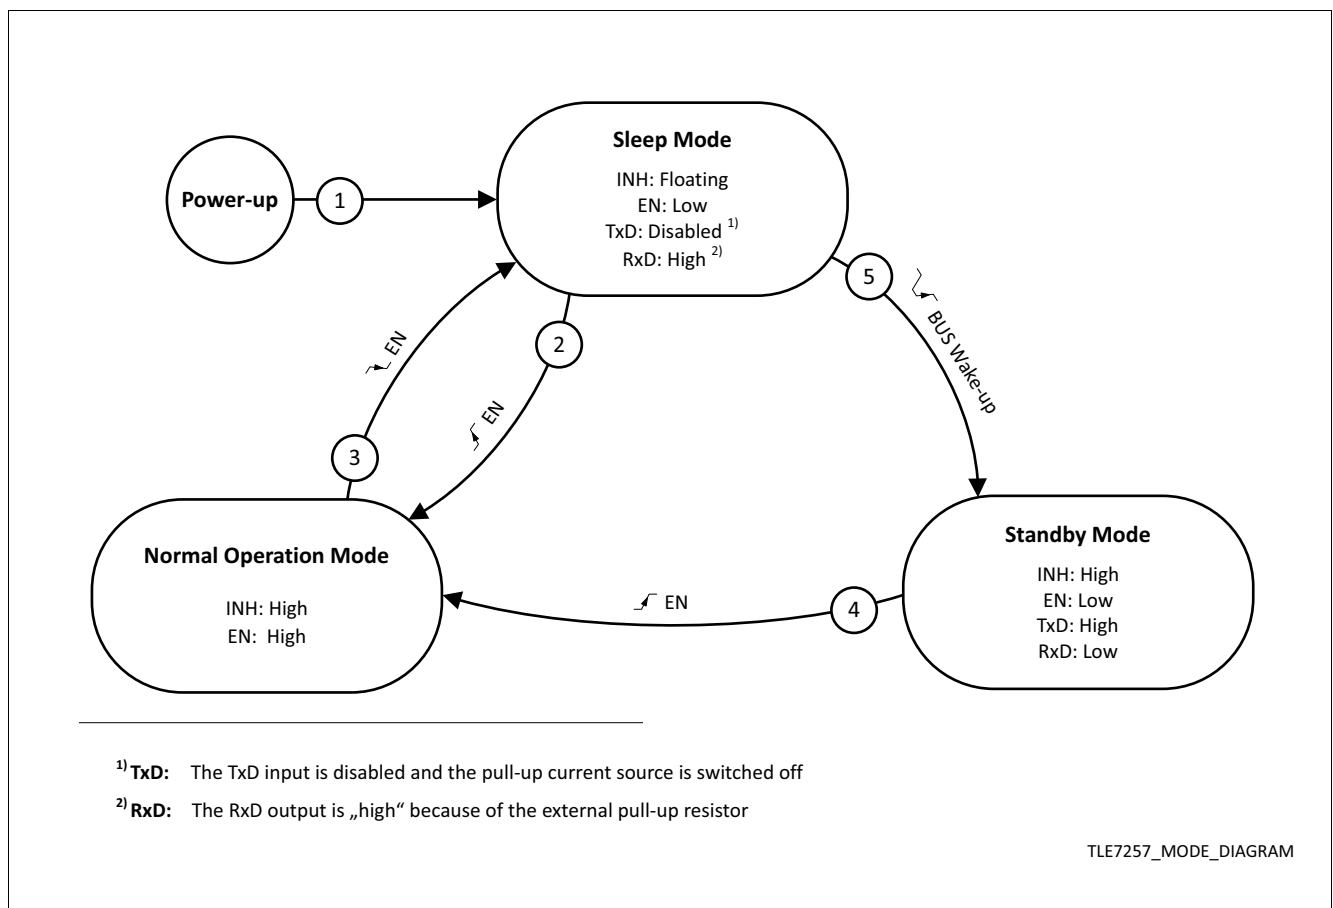
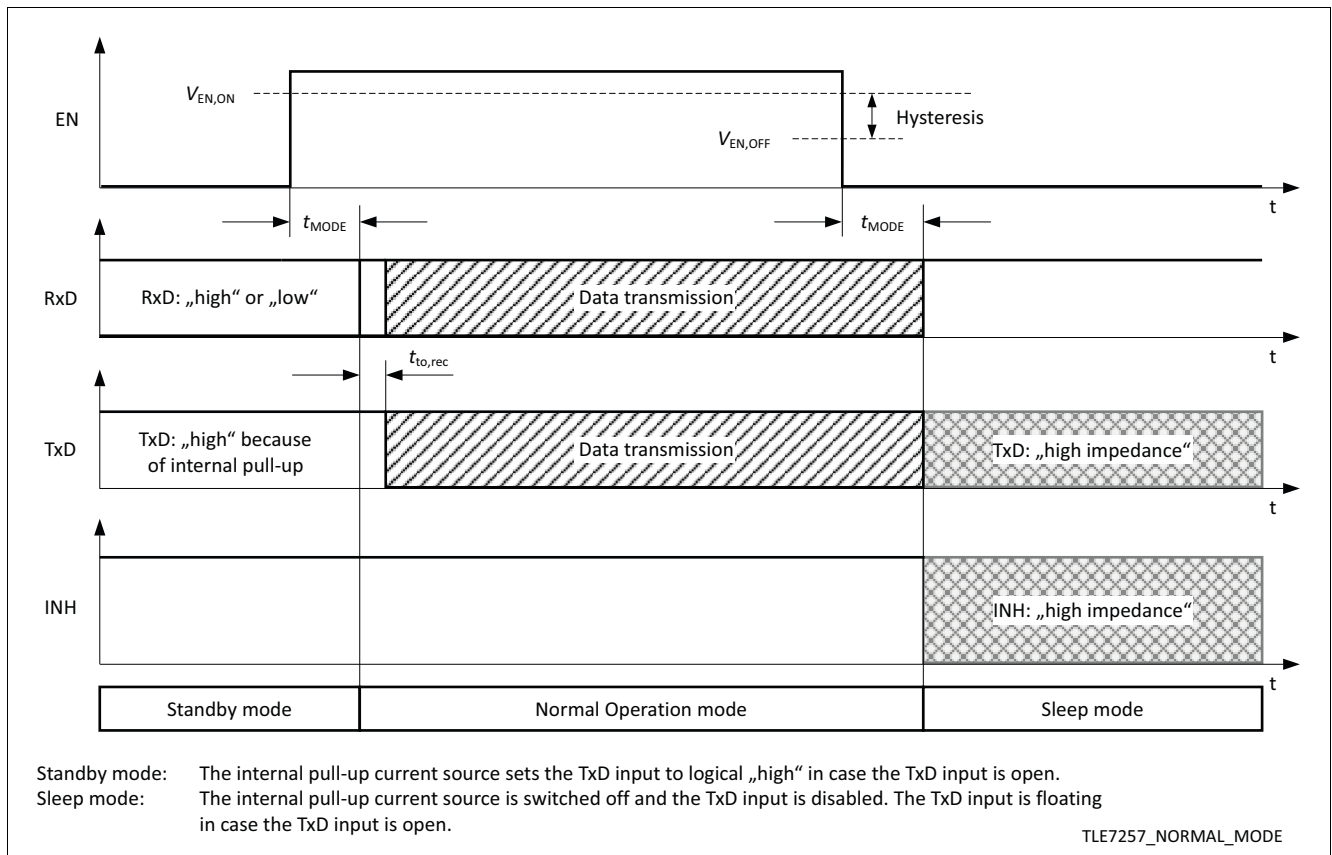
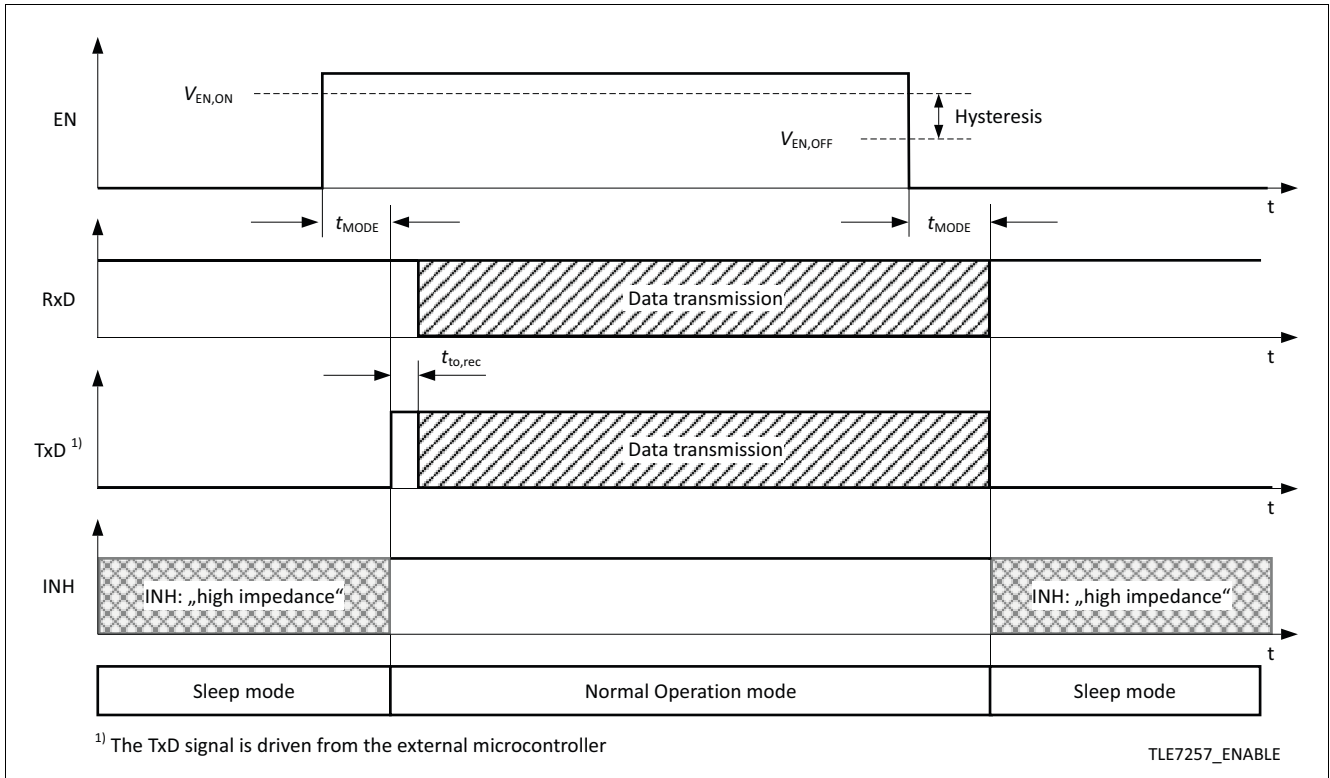

Figure 4 Operation mode state diagram
Figure 5 Entering Normal Operation mode from Standby mode
Figure 9 Entering Normal Operation mode from Sleep mode
The TLE7257 has 3 major operation modes (see **Figure 4**):
Normal Operation mode can be entered from either Sleep mode (see Figure 9) or from Standby mode (see Figure 5), by setting the EN input to logical "high". From Normal Operation mode the TLE7257 can only enter Sleep mode, it is not possible to enter Standby mode directly (see Figure 4).
After a mode change to Normal Operation the TLE7257 requires a logical “high” signal for the time $t_{to,rec}$ on the TxD input before releasing the data communication (see Figure 5). The transmitter remains deactivated as long as the signal on the TxD input remains logical “low”, preventing possible bus communication disturbance.
- The RxD output indicates a wake-up event (see Figure 4 and Table 1).
- The EN input is active. A “high” signal on the EN input triggers a transition to Normal Operation mode (see Figure 5).
To switch the TLE7257 from Normal Operation mode to Sleep mode, the EN input has to be set to “low”. Conversely a logical “high” signal on the EN input sets the device directly back to Normal Operation mode (see Figure 4). The TLE7257 can only enter Sleep mode from Normal Operation mode.
The EN input is used for operation mode control of the TLE7257. By setting the EN input logical “high” for the time t_{MODE} while being Sleep or Standby mode, a transition to Normal Operation mode will be triggered (see **Figure 9**). The EN input has an integrated pull-down resistor to ensure the device remains in Sleep or Standby mode even if the EN pin is left open. The EN input has an integrated hysteresis.
A signal transition from logical “high” to “low” on the EN input changes the operation mode from Normal Operation mode to Sleep mode (see **Figure 5**).